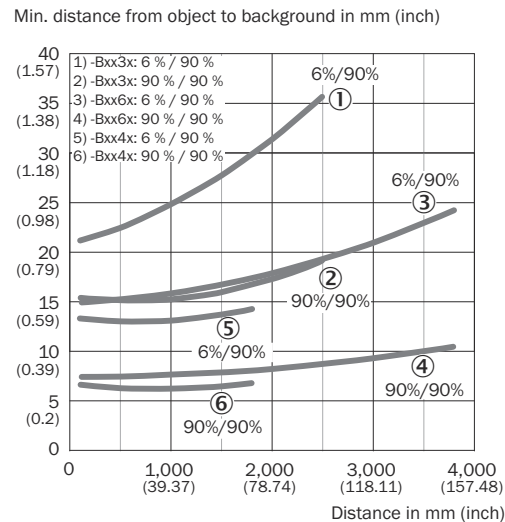

Figure 4: Curve 1
Check the application conditions: Adjust the sensing range and distance to the object or background and the remission capability of the object according to the corresponding diagram [figure 4] (x = sensing range, y = minimum distance between the object and background in mm (object remission/background remission) (remission: 6% = black, 90% = white) (based on standard white DIN 5033)).
The minimum distance (= y) for background suppression can be read from the diagram [cf. figure 4 ①] as follows: